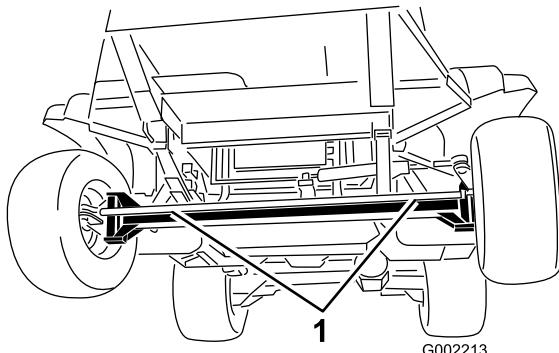
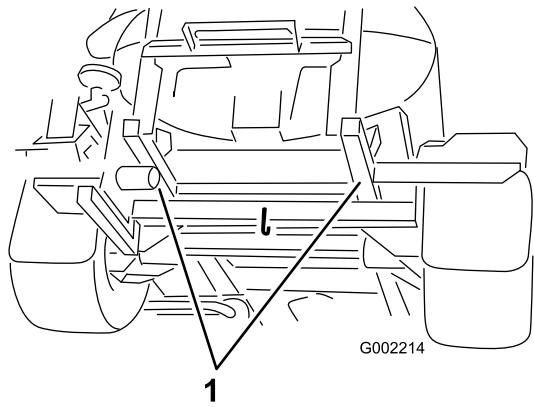

Figure 54
Figure 55
2. Affix a tow line to the frame; refer to the front and rear towing points (Figure 54 and Figure 55).